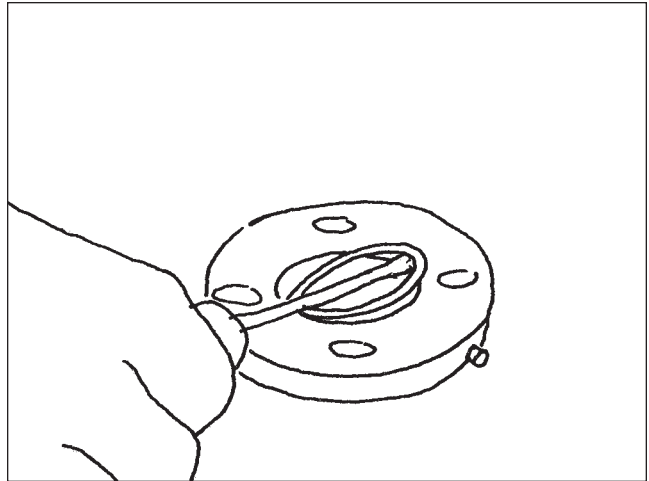

Figure 11
7. With a screwdriver, lightly pry the salt seal out of the bearing cap cover (**Figure 11**).